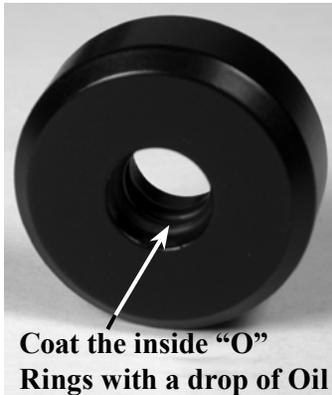

Figure 8
7. Locate the Tone Arm Counterweight and the supplied small bottle of Bearing Oil. Using a small cotton swap (Q-Tip) apply one drop of the oil to the inside center of the Counterweight "O" Rings. Refer to figure 8.